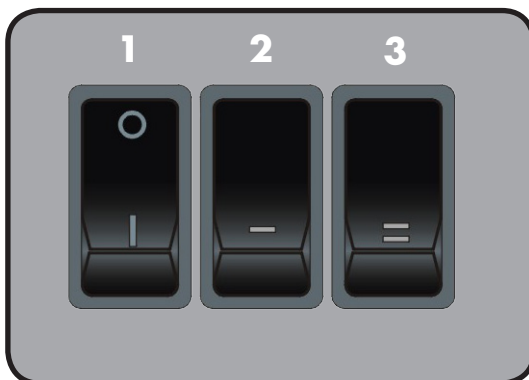

Fig. 2: Control panel on appliance
2. Now switch on the appliance by pressing the main switch (see Fig. 2, No. 1) and switch to position I. The flame effect then starts.
3. To switch on the heating function, move the rocker switch with number I (see Fig. 2, No. 2) downwards to switch to the first heating level (approx. 900 W). To reach the full output (approx. 1800 W), also move the rocker switch with number II (see Fig. 2, No. 3).
To switch off the appliance, move the main switch (see Fig. 2, No. 1) to position O.